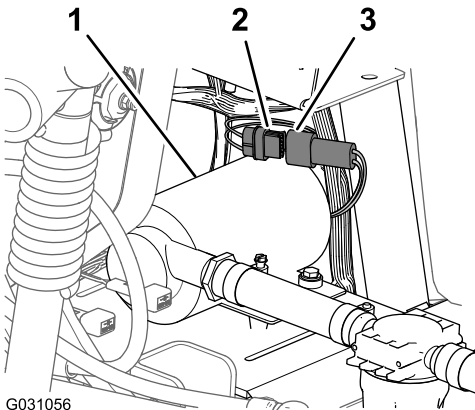

Figure 181
1. Connect the 6-pin connector of the rinse-pump harness from the 6-socket connector of the rear, main harness (Figure 181).